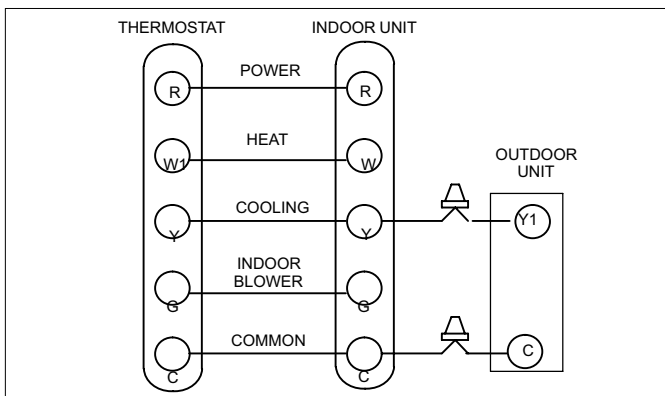

Figure 31. Typical Field Low Voltage Wiring
4. Install low voltage wiring from outdoor to indoor unit and from thermostat to indoor unit as illustrated in figure 31.